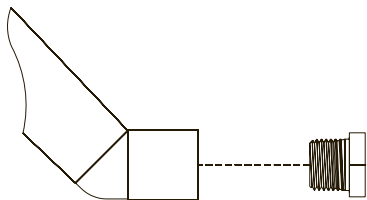

Figure 19
3. Remove LP burner orifice marked 55 from each orifice fitting. See Figure 19.